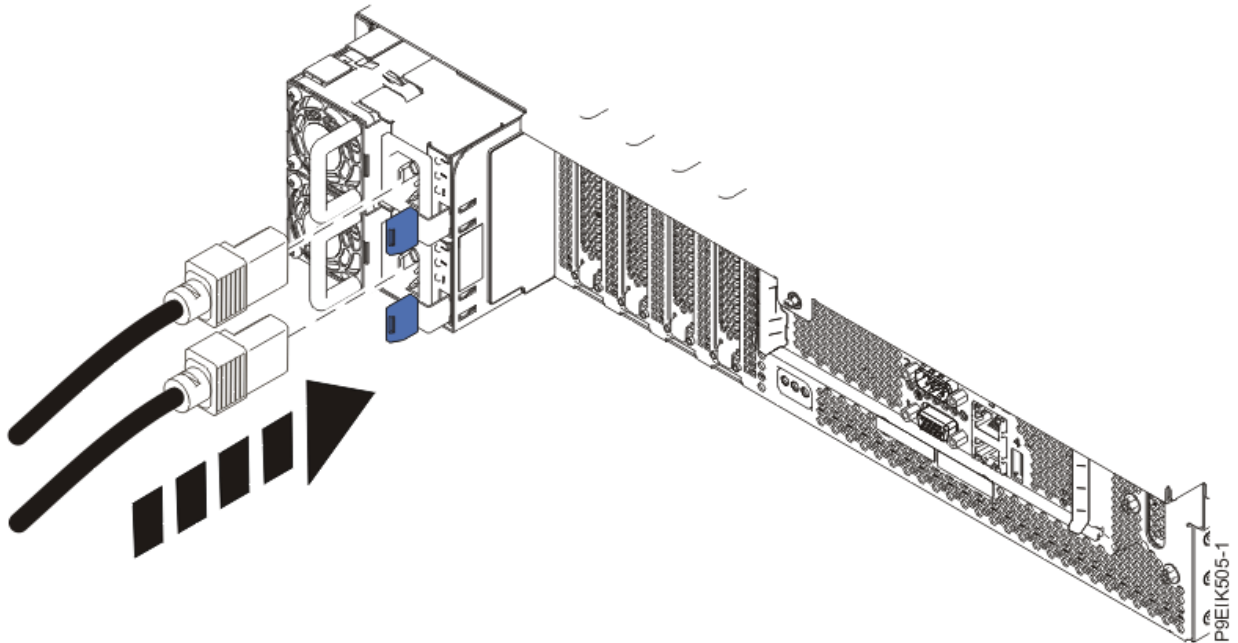

Figure 74. Connecting the power cords to the system
2. Using your labels, reconnect the power cords to the system unit as shown in Figure 74 on page 123.